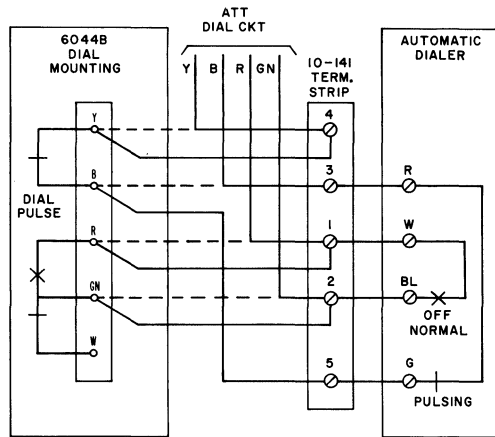

Fig. 2—KS-19594 Dialer Connections to Switchboards With Both Rotary and TOUCH-TONE Dials
**Note 8:** Dialer may be connected as shown in Table B to any PBX equipped with rotary or both rotary and TOUCH-TONE dials or TOUCH-TONE dials only. See Fig. 2, 3, 4, and 5. Dialer connections to an early model PBX should be engineered locally.